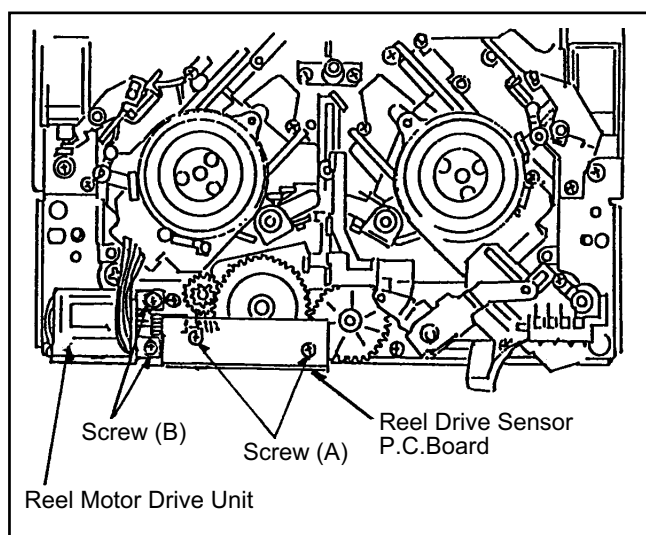

Figure 2-22
2. Unscrew the 2 screws (A) as shown in figure 2-22, and remove the Reel Drive Sensor P.C.Board.
3. Unscrew the 2 screws (B) as shown in figure 2-22, and remove the Reel Drive Motor Unit.